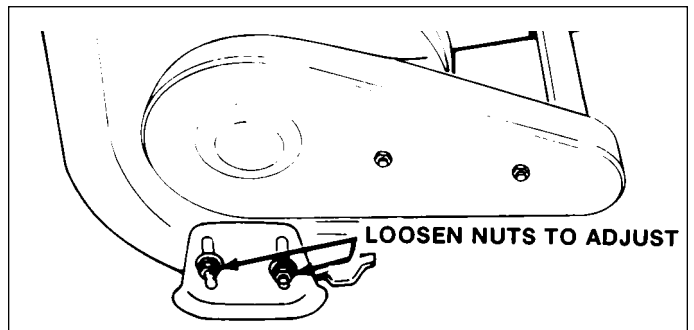

Figure 12. Adjusting Skid Shoes
1. Loosen the nuts securing the skid shoes (see Figure 12).